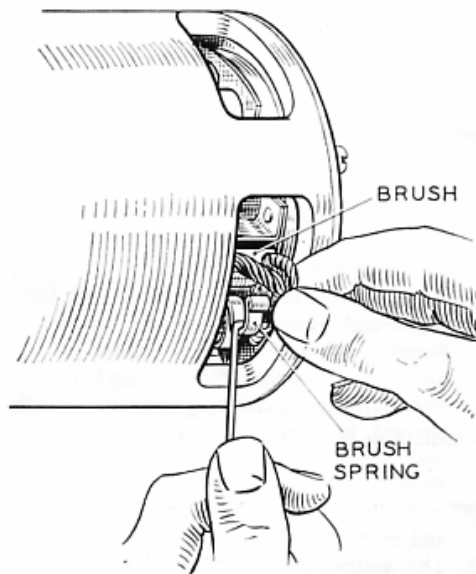

Fig. S.4.
1. Check that brushes move freely in their holders by holding back brush springs and pulling gently on the flexible connectors (Refer to Fig. S.4). If movement is sluggish, remove brush from its holder and clean its sides with a fluffless petrol moistened cloth. Replace brush in its original position. Brushes which are worn to less than 9/16 in (14 mm) long must be renewed.